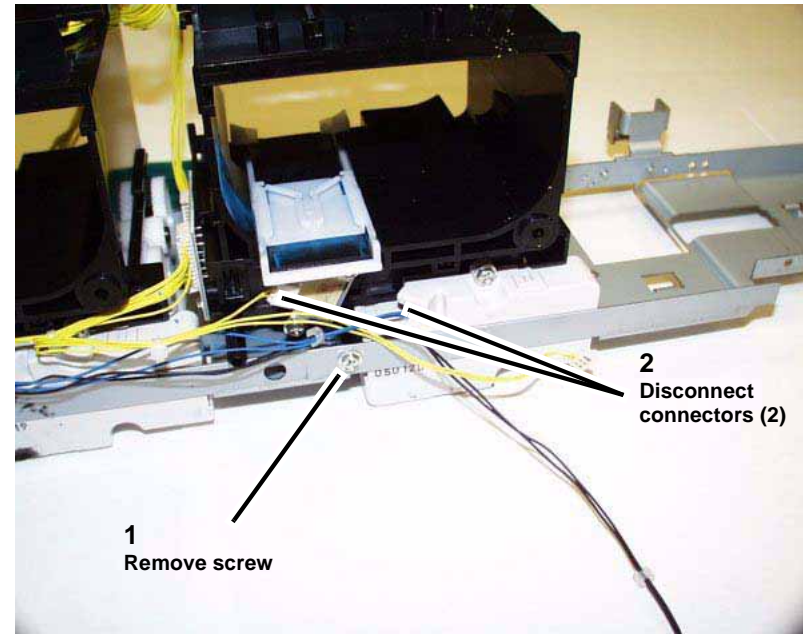

Figure 2 Removing rear screw
4. Remove rear screw (Figure 2).